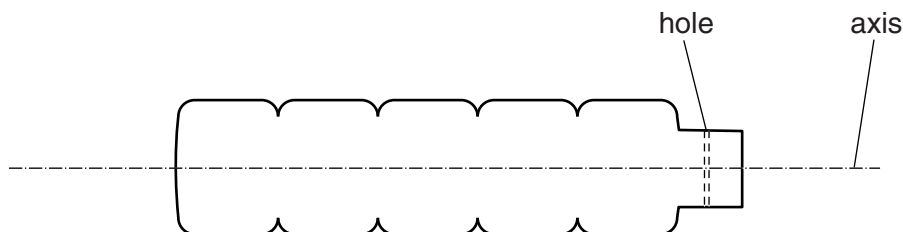

Fig. 2.1
- 1 Remove the cap and discard it. Drill a hole through the neck of the bottle. The diameter of the hole should be slightly greater than the diameter of the nail. The hole should pass through the axis of the bottle and should be perpendicular to the axis of the bottle, as shown in Fig. 2.1.